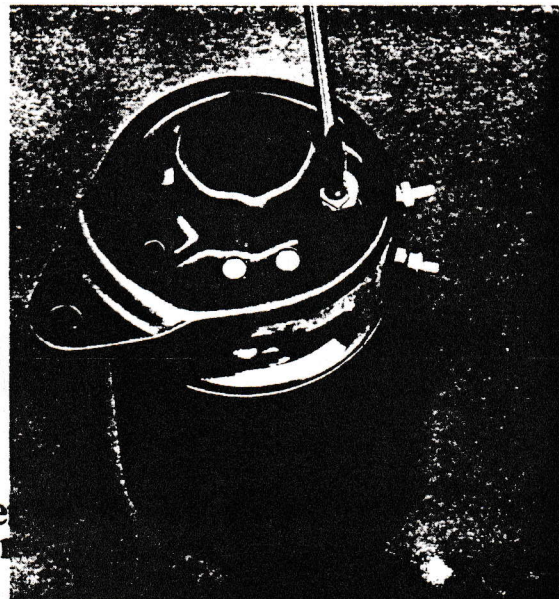

Fig. 19. Removing the connecting bar
Remove the screws which hold the dynamo housing and end shield together after having first disconnected the connecting bar as shown in Fig. 19.
7. Connect the bar for the main current to the positive brush, see Fig. 19.